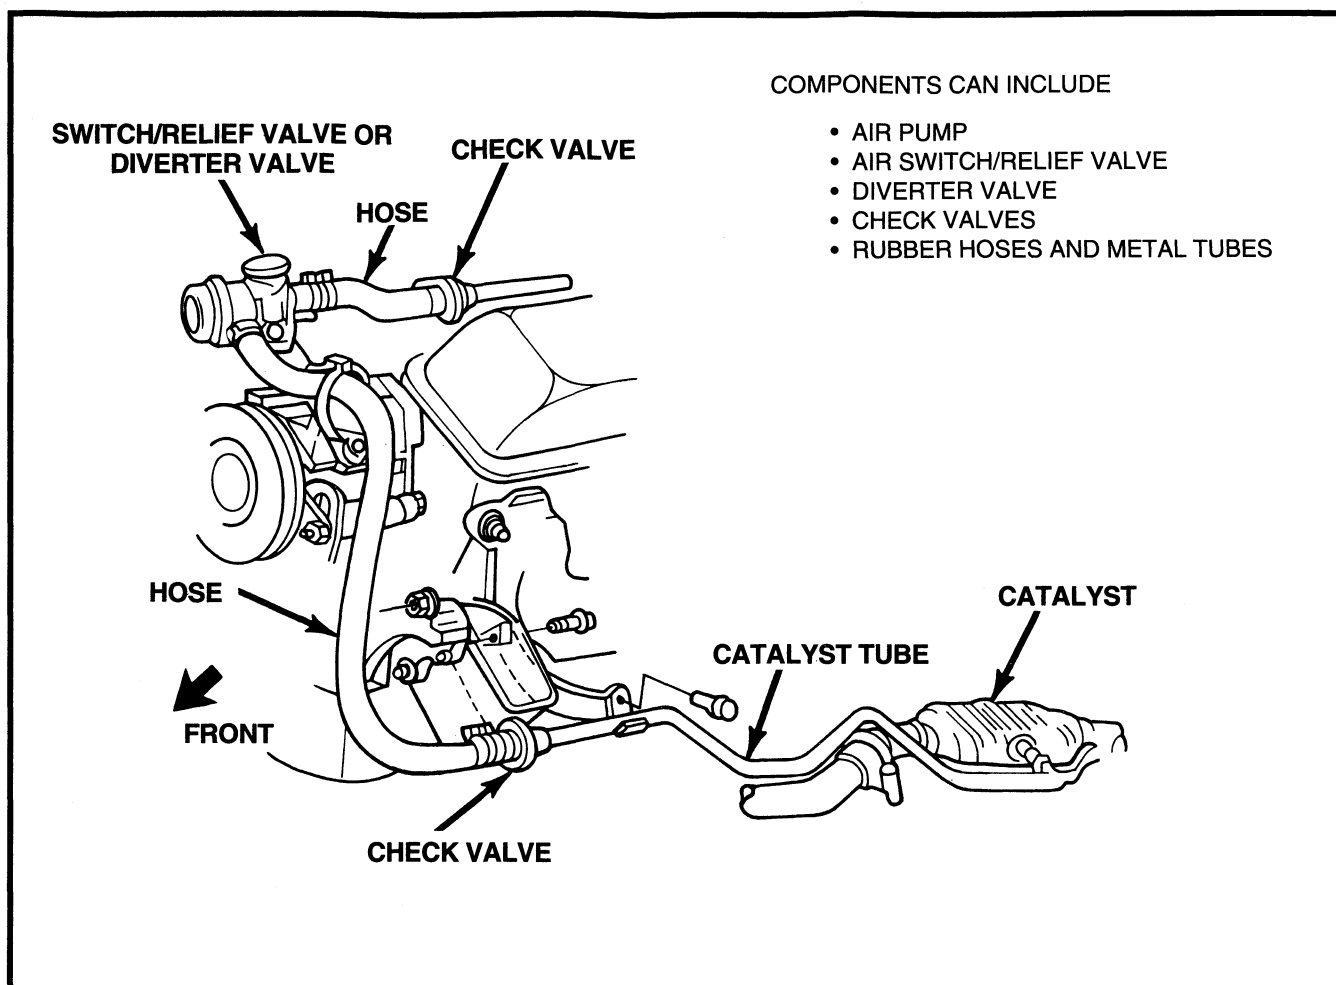

Figure 37 Air Pump System 1987 5.2L Light Duty Truck
- ***Air pump systems*** (fig. 37) employ a belt-driven air pump to inject air into the exhaust system.